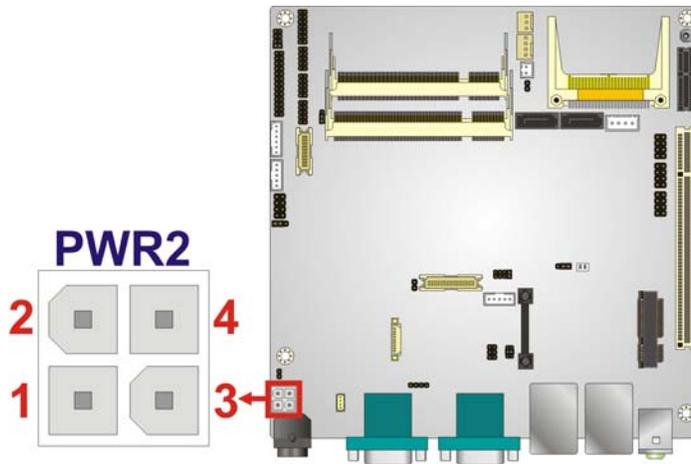

Figure 3-2: 12 V Power Connector Location
- CN Location:** See Figure 3-2